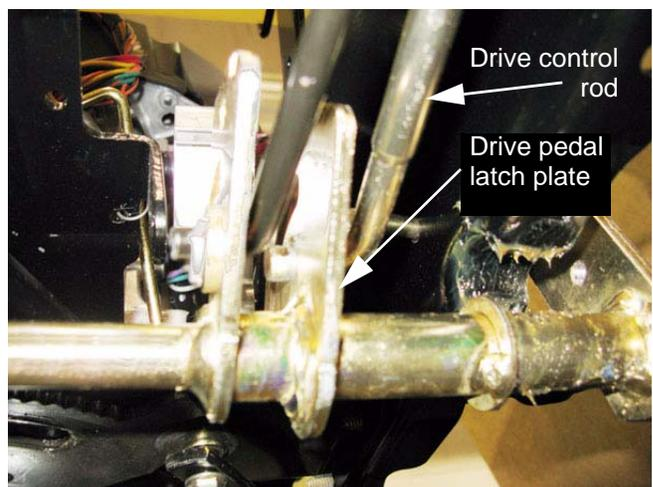

Figure 5.27
10. Disconnect the drive control rod from the drive pedal latch plate. See Figure 5.27.